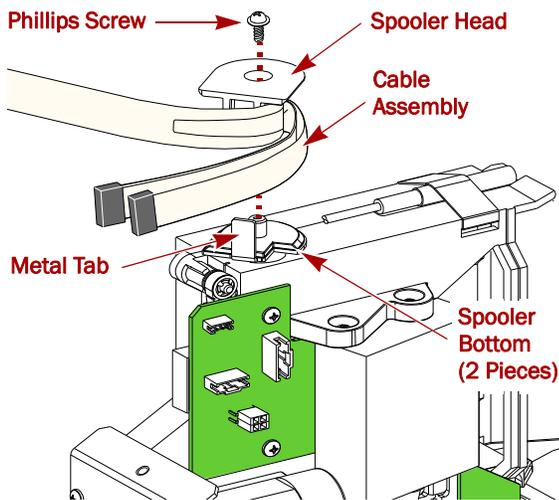

Figure 5. Removing the Cable from the Spooler Head
2. Use the Phillips screwdriver, unscrew and detach the **spooler head** with the cable assembly still attached (Figure 5).
2. Slide the **spooler head** onto the bottom pieces, aligning the flat side slot with the metal tab (Figure 5).